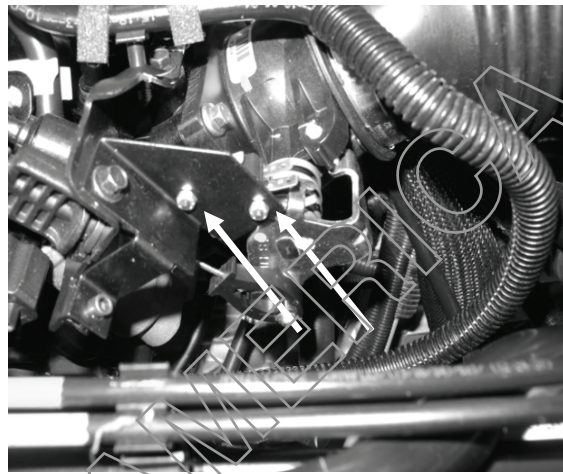

FIGURE 49
78. **FIGURES 49 and 51** show the front of the installed wide-open throttle switch bracket, with the bolts attaching the switch bracket to the existing bracket that is located on the passenger side of the throttle body. The arrows in **FIGURE 49** show the bolts which hold the WOT switch to the bracket.